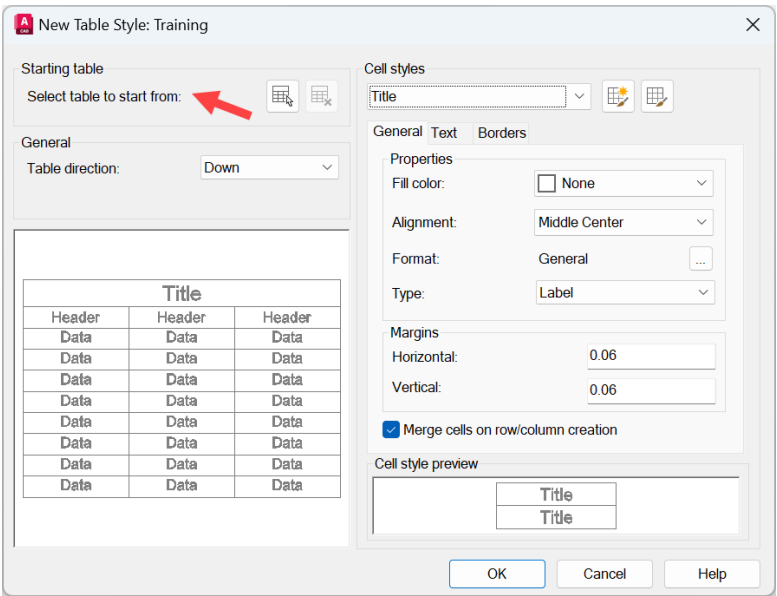

Figure 7.34: The New Table Style dialog box
- The **New Table Style** dialog box is displayed, as shown in *Figure 7.34*. Notice you can select an existing table style to start with (arrowed). This allows you to select an existing table in your drawing and use its table style as a template.